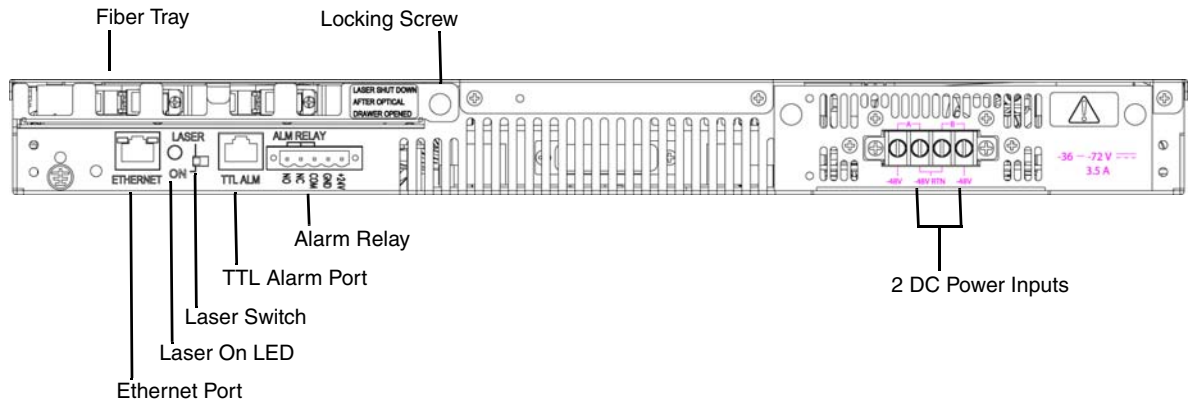
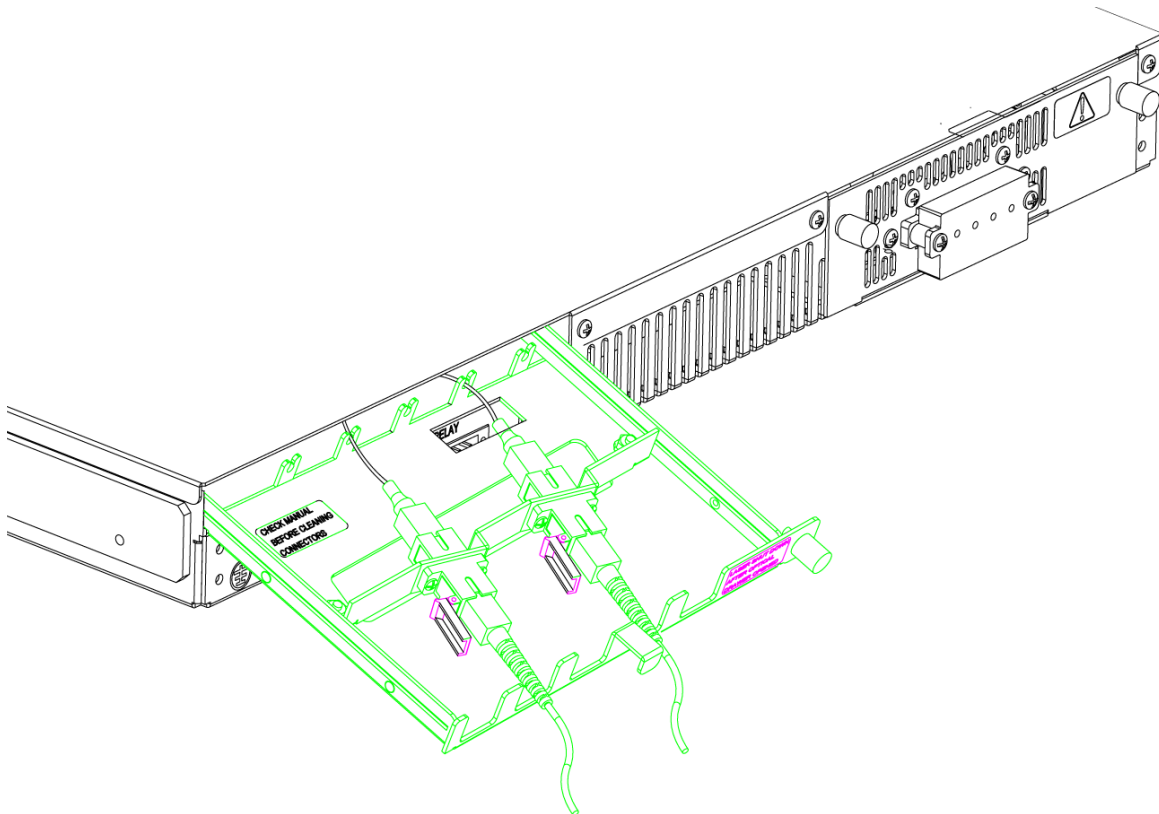

Figure 3-1. HOA 7100 rear panel features
Figure 3-2. HOA 7100 rear panel with fiber tray open
Figure 3-1 shows the location of the ports on the rear panel. Figure 3-2 shows the rear panel with the fiber tray open.
The HOA 7100 has two optical connectors, one input and one output, which are located on the fiber tray, as shown in Figure 3-2 on page 3-3. A label in the tray indicates which is input and which is output.
7. Move the fibers into the groove in the edge of the fiber tray, as shown in Figure 3-2 on page 3-3.